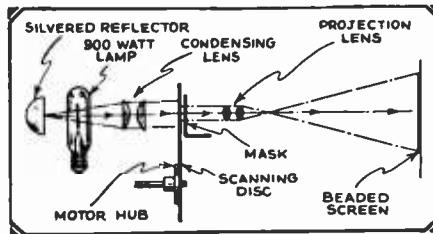

Fig. 2—Shows line-up of reflector, lamp, lenses and scanning disc; subject poses before the beaded screen.
In Fig. 2, assume that minus OM volts are applied to the grid. The condenser (C) as shown in Fig. 1 will charge up to ON volts; at which point the electrical breakdown of the thyatron will occur and current will flow out of the condenser and through the thyatron tube. At exactly the same instant, the potential between the anode and the cathode drops to about 20 volts and the discharge ceases. The battery (E) now builds up to the potential ON, as previously, and the cycle is repeated.
Fig. 1 has, therefore, been shown and described to explain the important new principle as it was first conceived. The latest improved design shown in Fig. 2 was found to be superior in many ways. The construction is simpler, the device is smaller and cheaper, and its performance is much improved. In Fig. 2 we have a glass tube 1, placed within the hollow of an electromagnet 4. This tube contains only two electrodes, a cathode and an anode. The cathode is made of solid metal in contact with the glass bulb to dissipate the heat rapidly; one end is spherically concave. The concave surface is bare, while the rest of the cathode is totally insulated by mica sheets or by a coating of insulating material. The positive anode 3 is made of wire screen, the wires of which are very fine and loosely interwoven; so that the intersecting wires produce rather large, square clear spaces. This wire screen is coated with certain chemicals, so that the little heat produced by the concentrated glow discharge, will partially vaporize them and improve the brilliancy of the light. (A small amount of mercury can be put in the tube to obtain the same result.) The concave surface of the cathode may also be coated with a certain substance, giving off electrons
Fig. 2 shows the same device modified to employ deflecting fields and other changes to obtain improved results. Figure 4 shows how a very small deflection of the light source produces a very large sweeping action of the light beam upon a screen, after passing through a suitable optical arrangement.